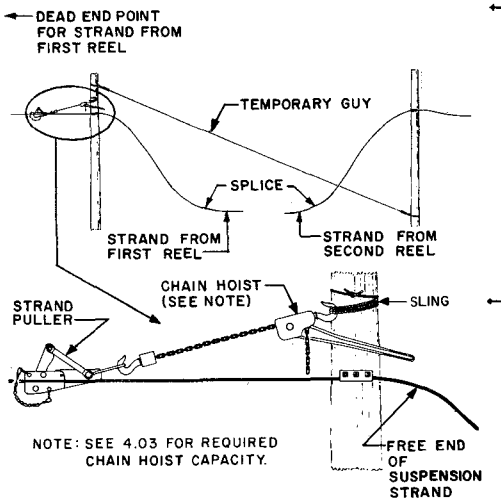

Fig. 7 — Holding Tension for Splicing Strand
- (b) Pull up the strand from the first reel to the required tension and hold the tension with a hoist and strand puller or a temporary false deadend as illustrated in Fig. 7. A temporary false deadend should be used in all cases for 16M or 25M strand or where it will be necessary to maintain tension for an extended period of time (such as from one work-day to another, etc).